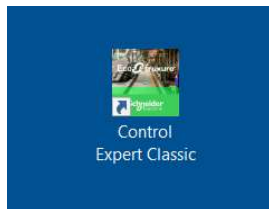

Figure 7. Control Expert icon.
- Start Control Expert by clicking on the desktop icon (See figure 7.).